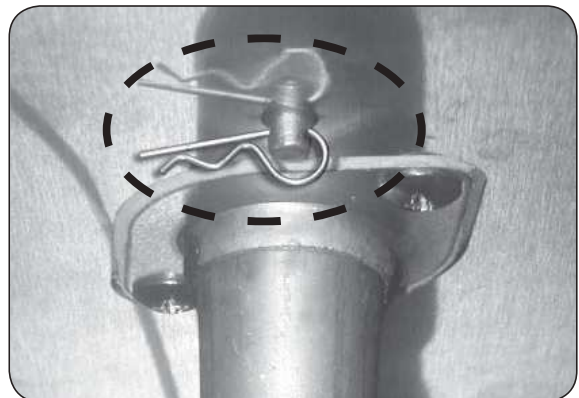

Fig. 12-3 Remove burner clip
- c. Reach up under the burner support and remove the burner retaining clip (see Fig. 12-3), located at the rear of the burner pipe.